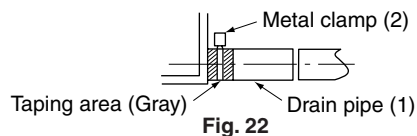

Fig. 22
- Be sure to use the drain pipe (1) and metal clamp (2).
- Also, insert the drain pipe completely into the drain socket, and securely attach the metal clamp bracket inside the gray tape area on the inserted tip of the drain pipe. **(Refer to Fig. 22)**